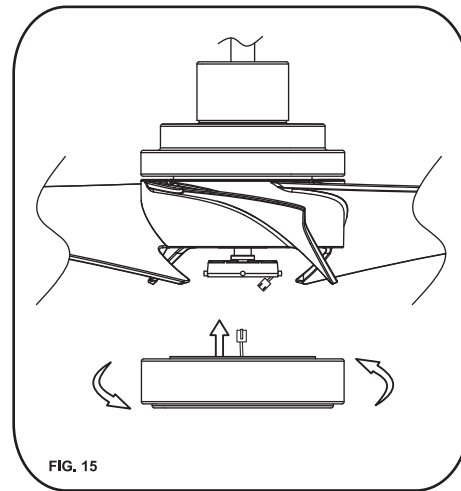

FIG. 15
Step 1. While holding the 20W LED assembly under your fan, firmly snap the wire connection plugs together. (Fig.15)
Step 2. Raise the 20W LED assembly to the lower portion of the fan and twist the LED assembly Clockwise until snug. (Fig.15)